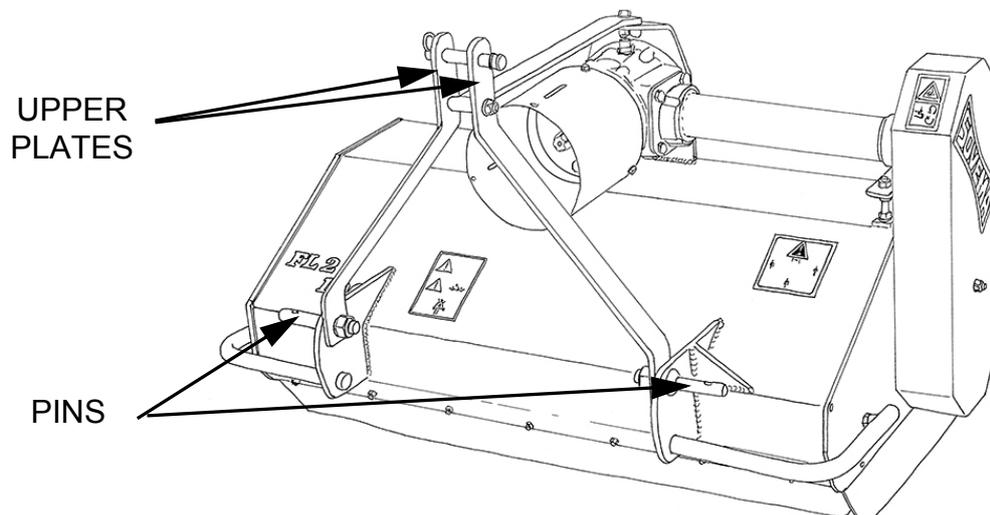

Fig. 1
- Working inclination of PTO shaft must not exceed 25° (see fig.1). Greater working angles will damage the PTO and serious personal injury could occur as well.
Connect the hitch of the drawbar to the tractor using a hitch pin and the hair clip pin (see fig. 1).